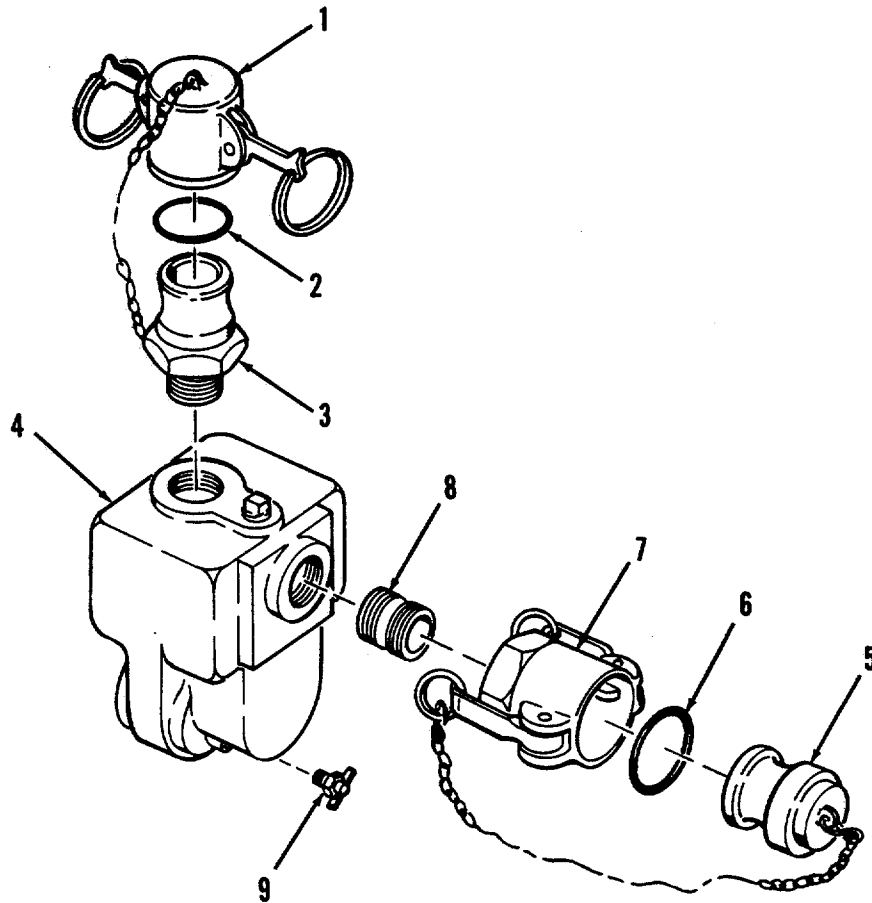

Figure 5-2. Pump Assembly Repair.
- (4) Loosen and remove impeller (6) by striking it along the periphery in a counter-clockwise manner and remove shims (7) and (8).
- (5) Remove two bolts (12), two lock washers (13), pump side housing (3), rotating portion of seal element (9), and non-rotating portion of seal element (10) from shaft of motor (11).
- (6) Remove slinger (14) from motor (11).
b. Disassembly. (Refer to Figure 5-2).
- (1) Remove dust cap (1), gasket (2), and coupling half (3) from pump (4).
- (2) Remove dust plug (5), gasket (6), coupling half (7), and pipe nipple (8) from pump (4).
- (3) Remove drain cock (9) from pump (4).
- (1) Inspect all metal parts for cracks, corrosion, or broken fittings.
- (2) Examine pump seals and packings for cracks or damage.
f. Assembly. (Refer to Figure 5-2).